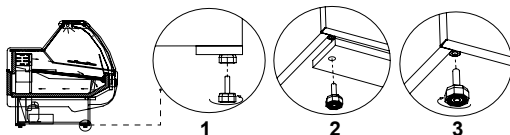

Fig.3 Removing the wooden platform
- Unpack the device and remove the wooden platform from the basis (does not concern moving devices) Fig.3 (p.18)